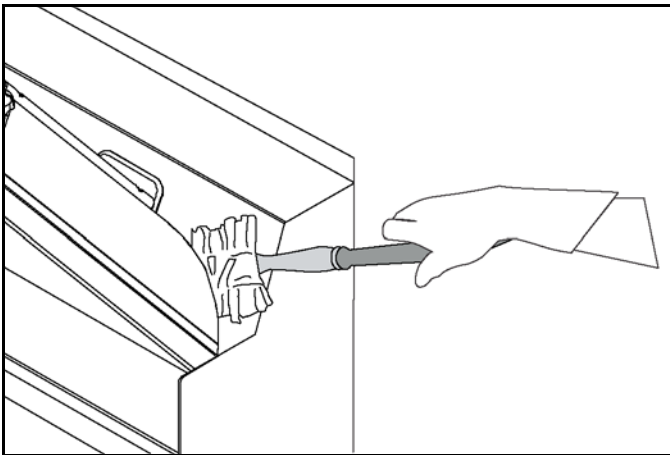

Figure-162
33. With the grill pulled out, wipe down the front and back areas of the grill with the universal pad. See Figure-162.